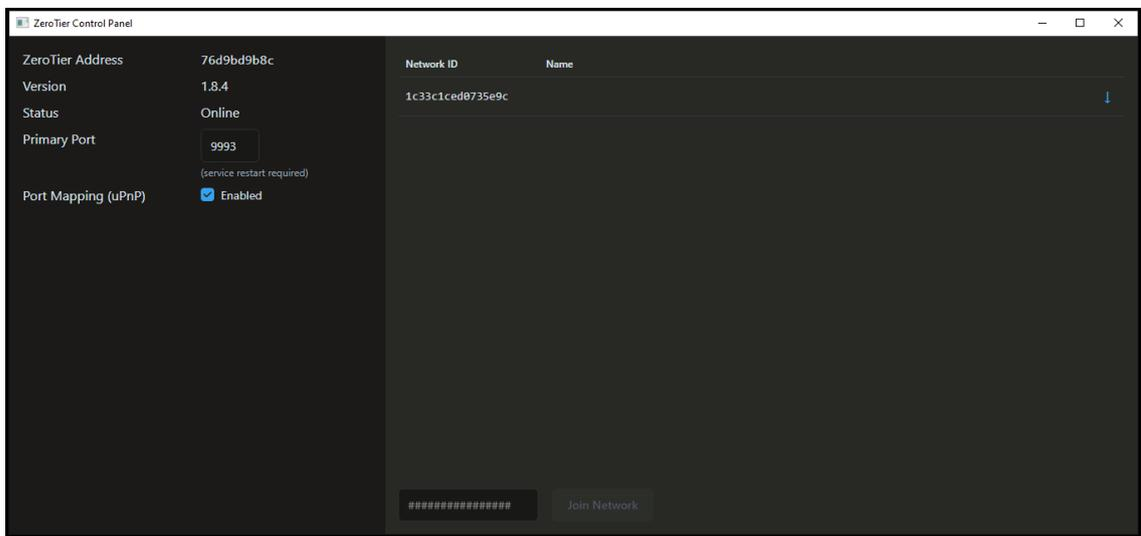

Figure 6: Control Panel 2
- 4 After this procedure, please send us a notification about your action. We'll add your computer to the network. If asked, please allow your computer to be identified on this new network otherwise the connection between the Black box and your PC will not be possible. You should have now the control panel with a Network ID number only as in Figure 6: Control Panel 2.